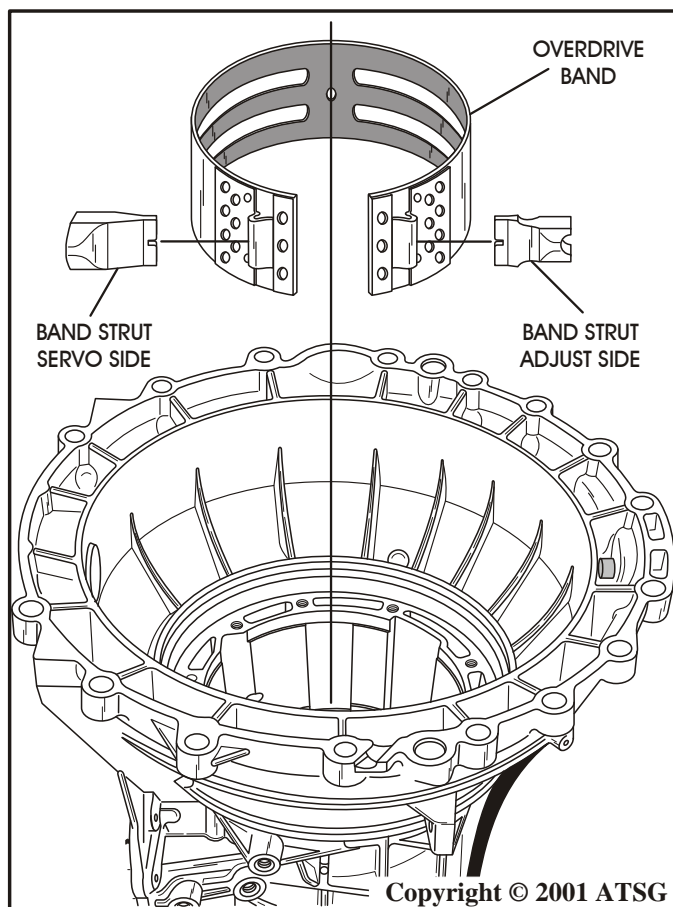

Figure 40
39. Remove the overdrive band assembly and both band struts, as shown in Figure 40.
- Note:** Notice the difference in the band struts and which side they are located, as shown in Figure 40.